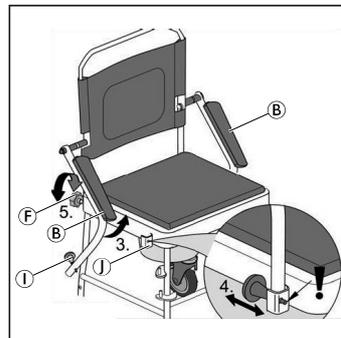

Fig. 3
- Swivel armrests (B) on both sides upwards until the spring pin (1) latches into the hole of the lock (1) on the seat frame (Fig. 3).
- Turn the star head screw (F) in completely (hand-tight) (Fig. 3).